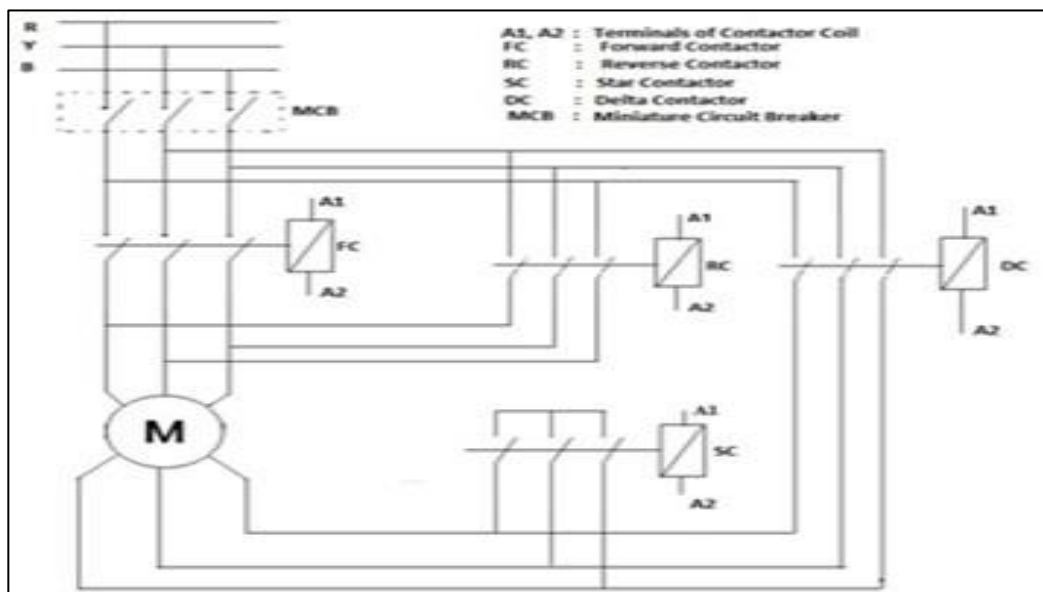

Fig.20 Reverse current breaking method for three phase induction motor
1. Compare the reverse current breaking method for three phase induction motor for fig.20 using ladder diagram in terms of concepts.